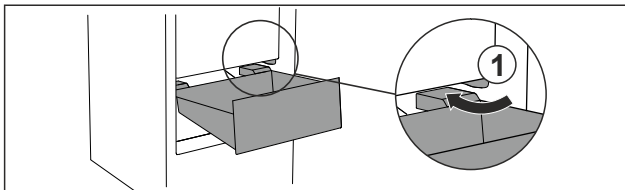

Fig. 68
- ▶ Guide drawer in at an angle around the stoppers *Fig. 68 (1)*.